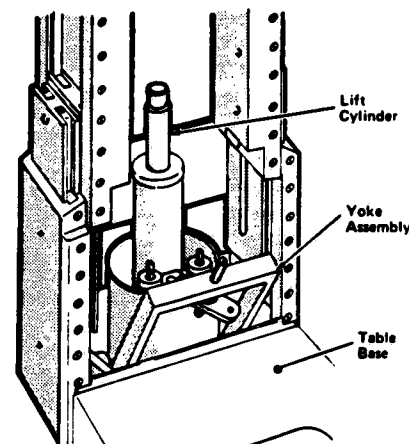

Figure 5-4. PUMP REMOVAL.
9. Lift the yoke assembly away from the sump; lean it against the table base (Figure 5-4).